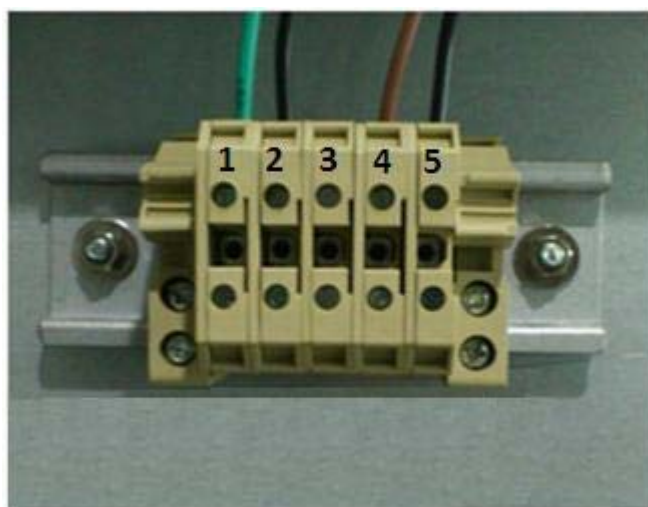

Figure 37: Dry contacts of 400~600KVA UPS
6. Connection of dry contacts: the wiring terminal of dry contacts is located below the interior door of rectifier cabinet. Dry contacts are as shown in Figure 37. Dry contacts "1" and "2" are the wiring terminal for cold start of battery (**note: the terminal carries strong current during the operation of UPS. "1" refers to live wire and "2" refers to neutral wire**); dry contacts "4" and "5" are wiring terminals of auxiliary contacts in maintenance bypass (option).